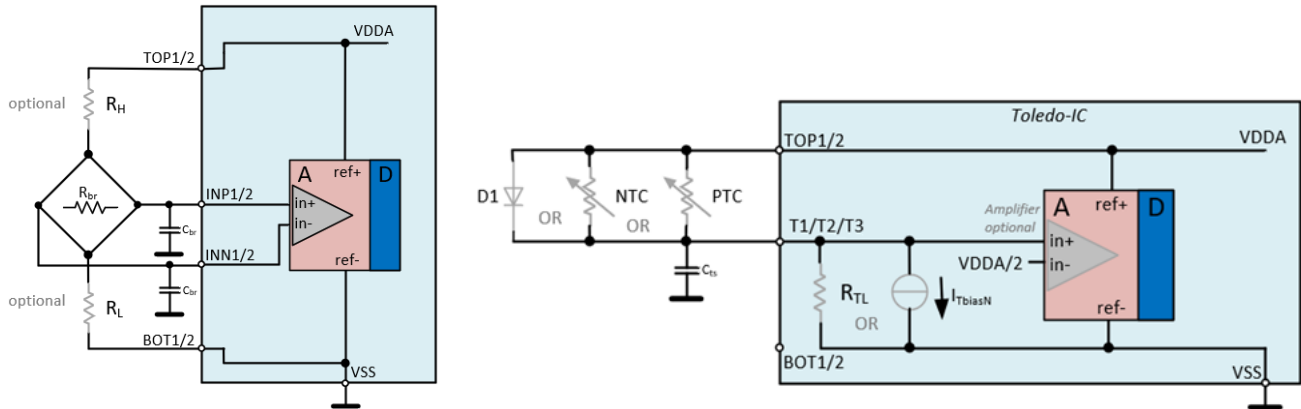

Figure 111. Cbr and Cts Capacitors
- Cbr [nF] and Cts [nF] fields: Values from 0nF to 2nF are allowed, the corresponding capacitors are displayed in Figure 111.